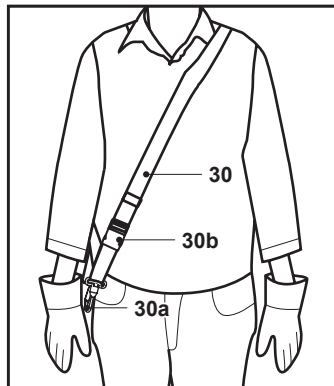

Fig. 20
1. Place the harness (30) so that it runs over the left shoulder, crossing the chest and back. The securing clip (30a) must be located at the right hip. The quick release (30b) must be in front (Fig. 20).